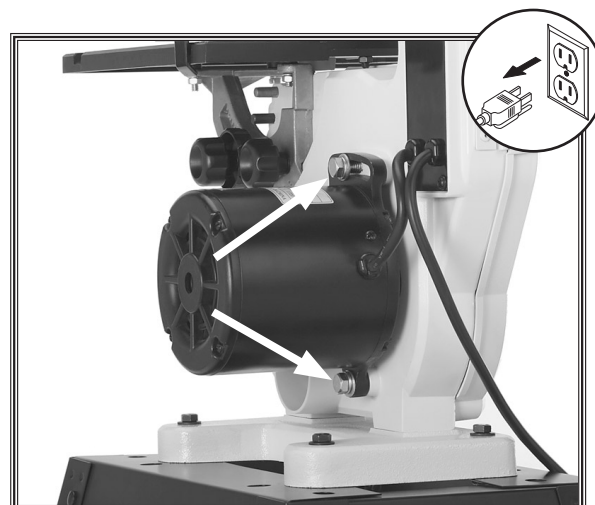

Figure 53. Motor adjustment bolts.
2. Using a 14mm wrench, loosen the motor adjustment bolts shown in **Figure 53**.